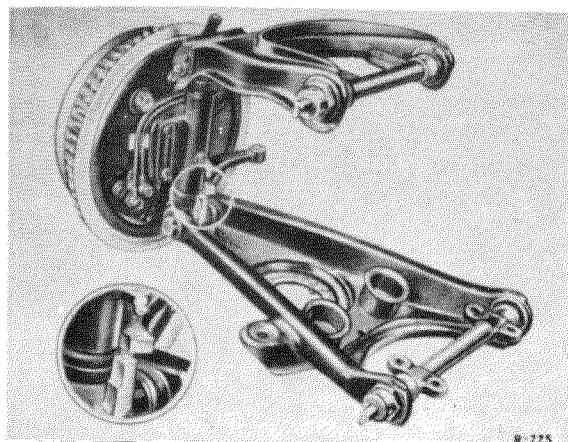

Fig. 46 — 1/4
13. Screw in and tighten the grub screw (4) for the steering column jacket (Fig. 46 — 1/3). On no account may the grub screw be omitted, since this screw is necessary to prevent axial displacement of the annular grooved bearing and the steering tube.
14. Turn the steering hard over to the left and to the right. In doing this, check whether the steering knuckle arm rests against the steering knuckle assembly stop face (Fig. 46 — 1/4).